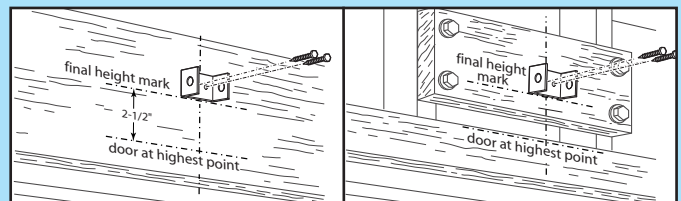

FIG. 2-3 Header bracket mounting (on header & above header).
NOTE: If header bracket location needs to be above header for garage door opening, you need to add a "mounting surface." A 2" x 6" board securely attached (board and fasteners not included) to wall studs on either side of your mark is sufficient (Fig. 2-3).
- Hold header bracket against wall (Fig. 2-3).
- Fasten header bracket with 2 lag screws (provided) (Fig. 2-3).